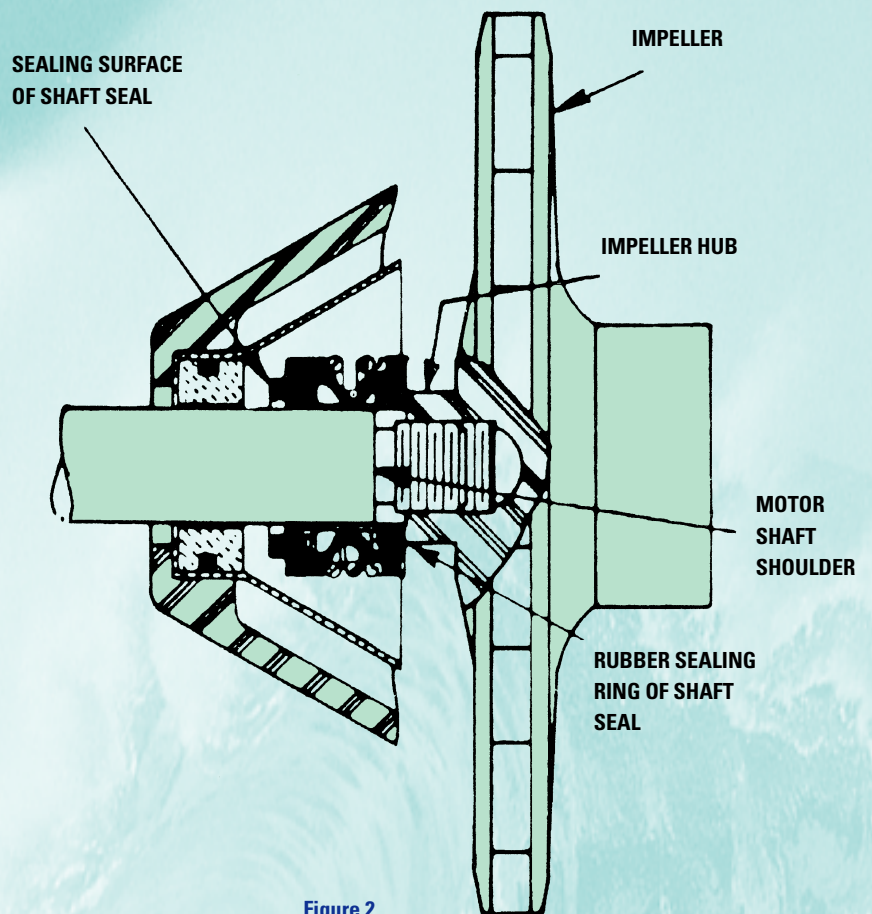

Figure 2
10. Place seal plate face down on flat surface and tap out ceramic seat (Fig. 2).
6. Slide rotating member, polished face first, over threaded shaft end and shaft shoulder until rubber drive ring hits shaft shoulder (Fig. 2).